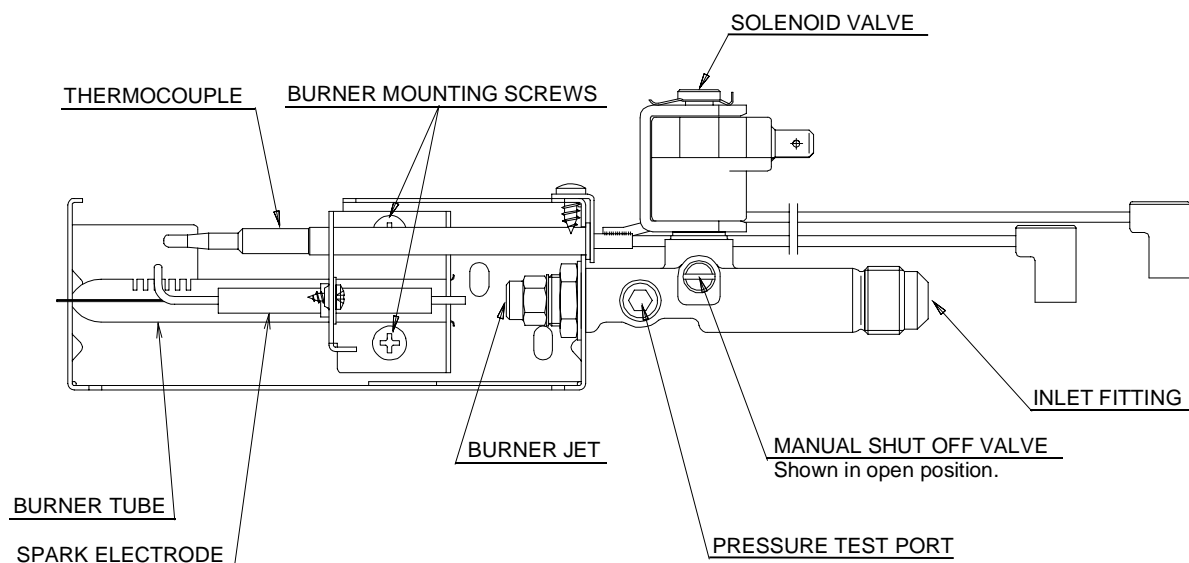

FIG. 12
column. The correct place to take the LP gas pressure is at the test port just ahead of the burner jet. (See FIG. 12).
6. Remove the burner mounting screws and remove the burner assembly. (See FIG. 12).